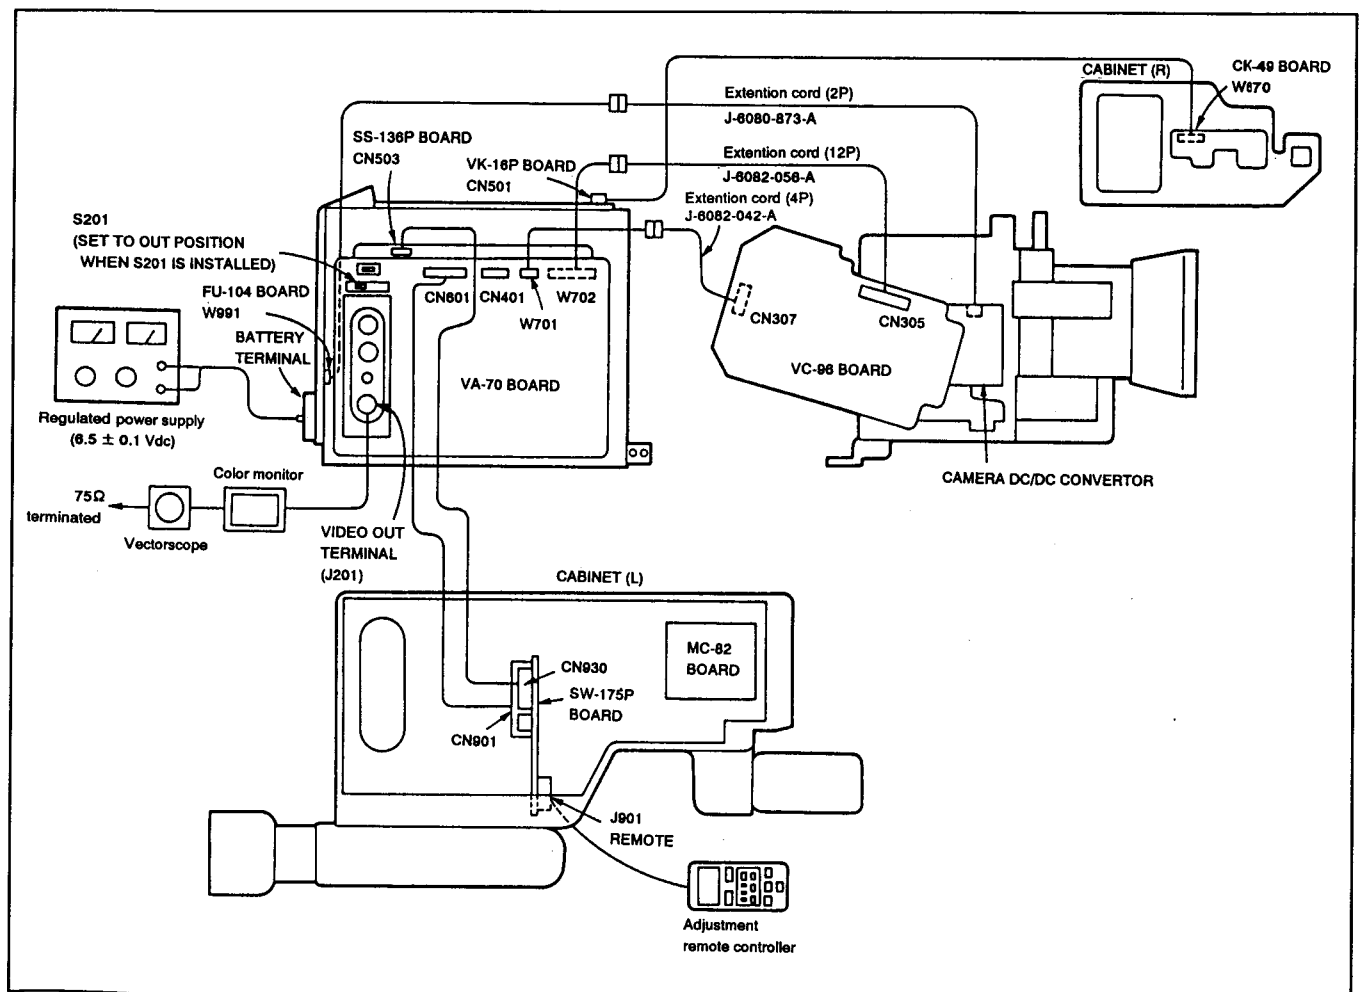

Fig. 8-3.
- 1) Connect the various devices for adjustment as shown in Fig. 8-3.